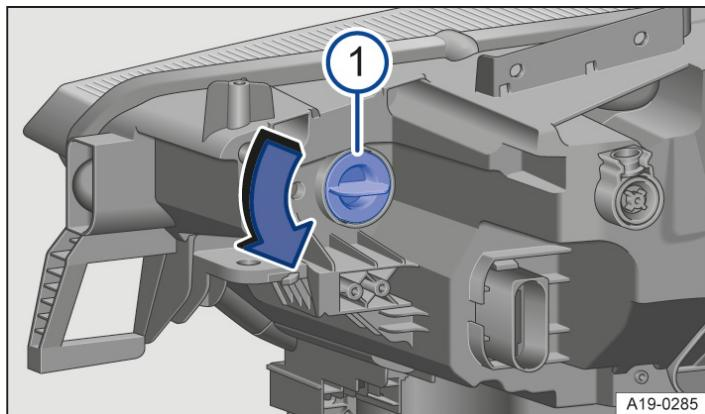

Fig. 1 Rear of the right headlight: changing the turn signal bulb.
3. Turn the bulb holder → Fig. 1 1 in the direction of the arrow and pull it out.